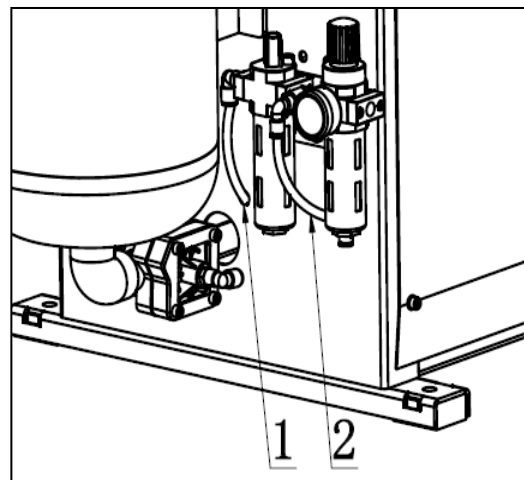

FIG6
- ✧ Connect the PU hose into the connectors of air regulator like FIG6. (if the machine is without the GT function, just need to connect the hose like FIG6-1).